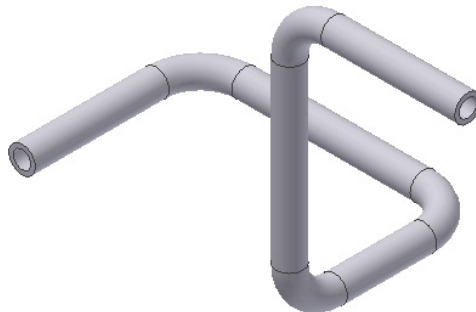

Figure 18-47 Pipe for Tutorial 3
3. Choose **OK** to close the **Sweep** dialog box. The final pipe for Tutorial 3 is shown in Figure 18-47.